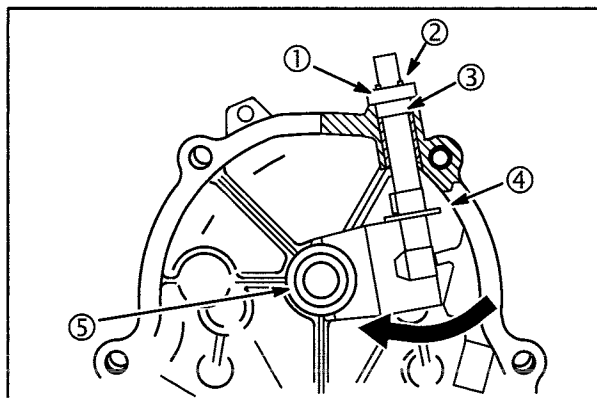

Fig. 10
1. Assemble lower bushing to governor shaft with thrust flange (4) down, **Fig. 10**.
3. Install new seal (3), collar (1) and cotter pin (2). Governor shaft must rotate freely.
4. Rotate governor shaft (arrow) so that paddle rests against camshaft bearing support (5).